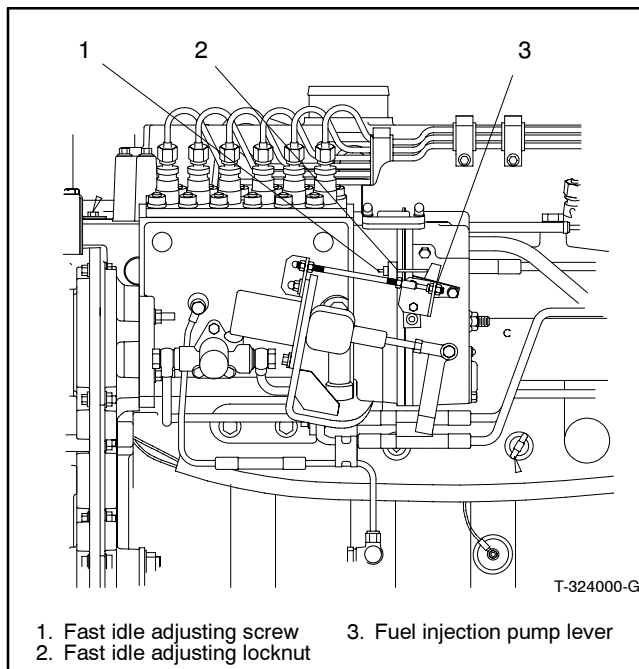

Figure 8-8 Governor Adjustments, Typical
- Verify that injector pump lever is held in fast idle position. See Figure 8-8.